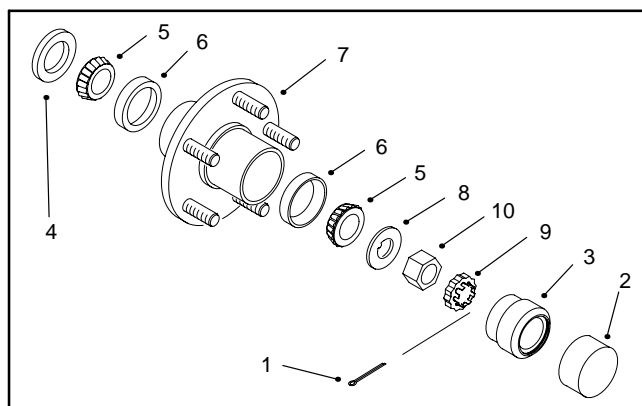

Figure 15
2. Remove the dust cap and bearing buddy from the end of the wheel spindle (Fig. 15).
10. Rotate the wheel by hand and tighten the slotted nut (Fig. 15) to 75 - 100 in-lb (8.5 - 11.3 Nm) to set the bearing. Then, loosen the nut until the hub has endplay.